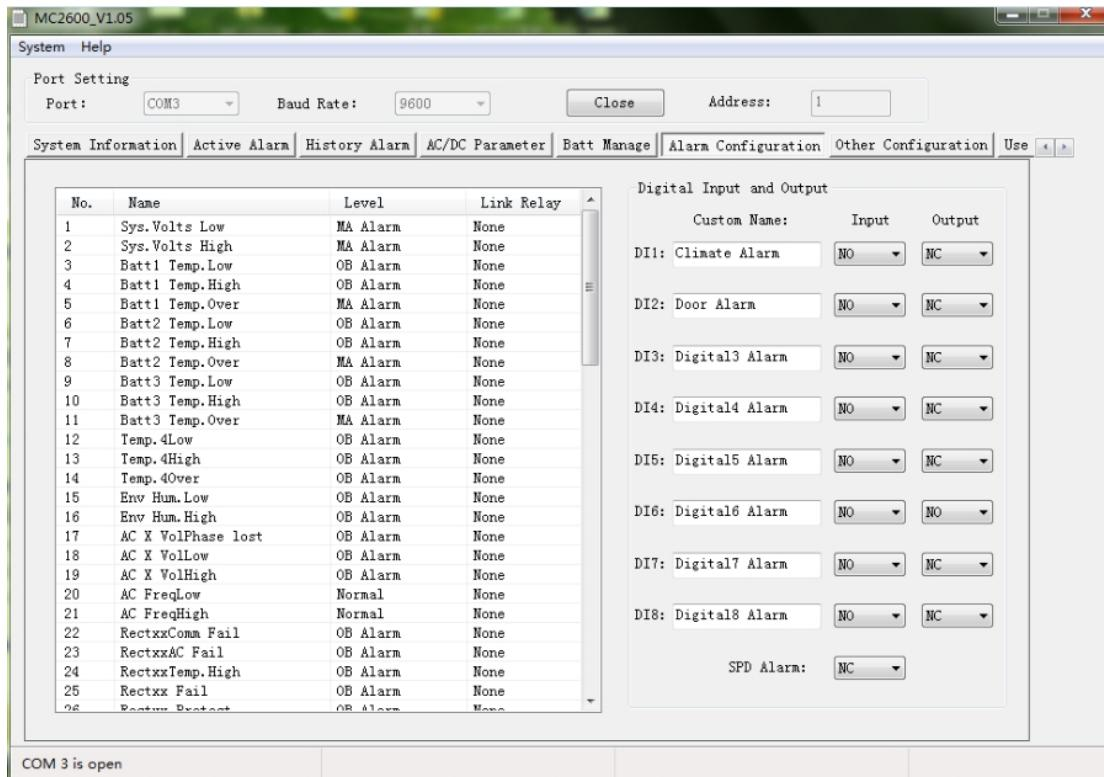

Fig 2-14 Alarm config screen
Alarm config screen is used to set alarm level and related relay output. Alarm setting screen refers to Fig 2-14.
- If user need set alarm level or related relay, press right button of mouse to select alarm level or relay option, press left button to choose it. As upper Fig 2-14 shows.